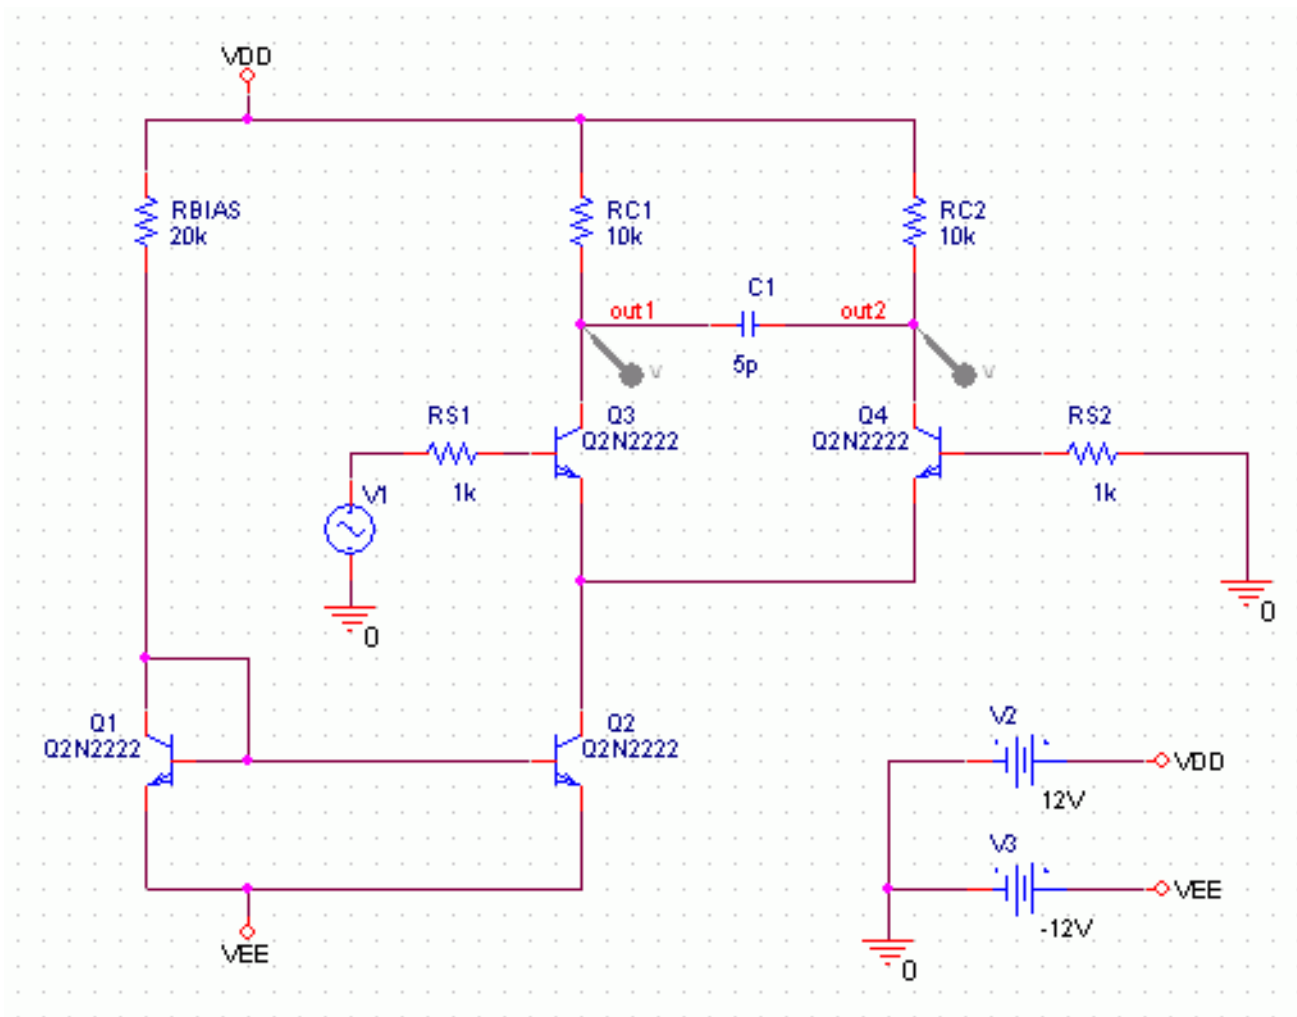

Figure 13-1 Example schematic EXAMPLE.OPJ.
For `EXAMPLE.OPJ` in Figure 13-1 on page 570, you can analyze the effects of variances in the values of resistors RC1 and RC2 by assigning a model description to these resistors that includes a 5% device tolerance on the multiplier parameter R. The steps for adding the 5% device tolerance are given below.
- In Capture, set up a new Monte Carlo analysis as shown in Figure 13-1 on page 570. The analysis specification tells PSpice to do one nominal run and four Monte Carlo runs, saving the DC analysis output from those five runs.